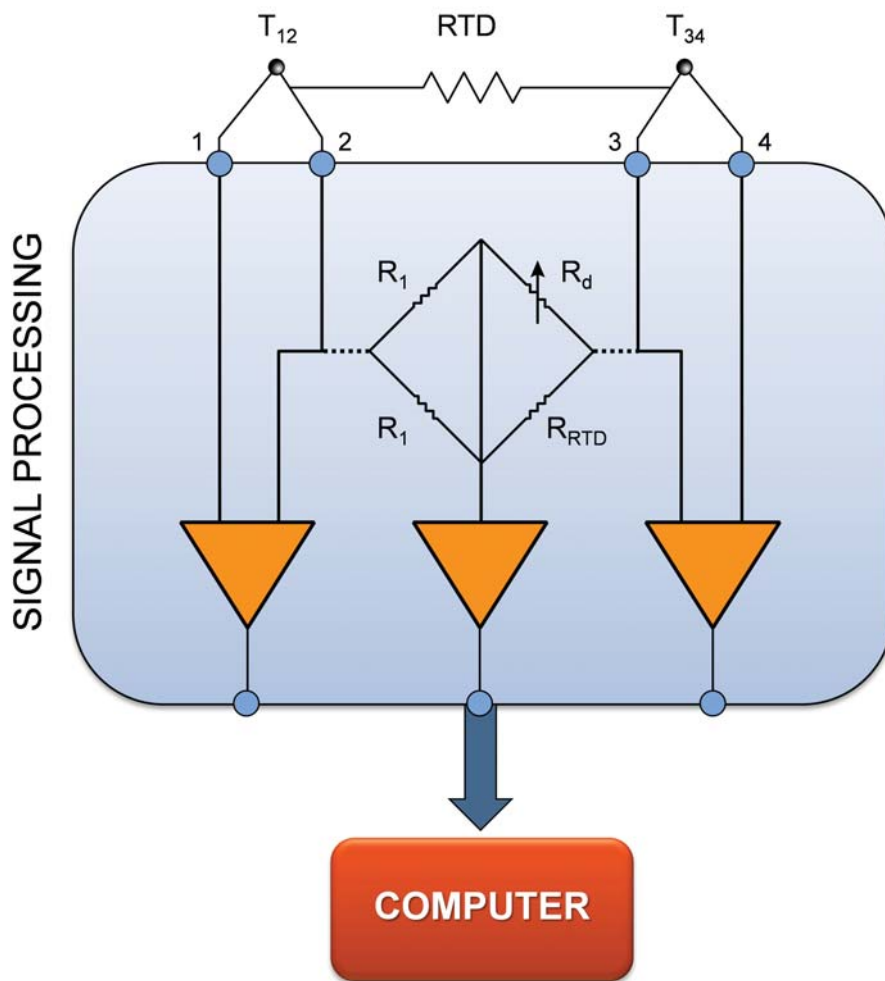

Figure 2. Triple Sensor and Data Acquisition and Analysis System.
- 1) **Triple Temperature Sensor:** Triple temperature sensors may be made of two thermocouples and one RTD. This type of sensor provides the capability to measure a wide range of temperatures while providing built-in diversity and fault tolerance. The assembly will include electronics and a microprocessor to provide signal conditioning to verify the sensor's calibration and response time. Figure 2 shows a conceptual block diagram of this sensor. The